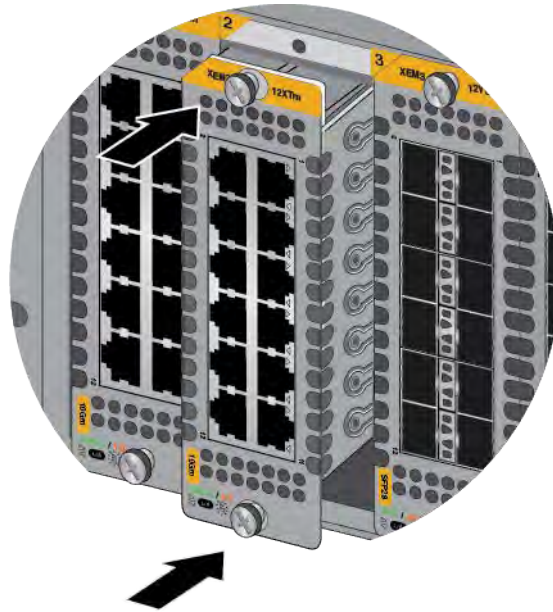

Figure 44. Seating an XEM3 Module in the Switch
5. When you feel the XEM3 Module make contact with the connector on the backplane of the switch, gently press on the top and bottom of the faceplate to seat it on the connector. Refer to Figure 44.